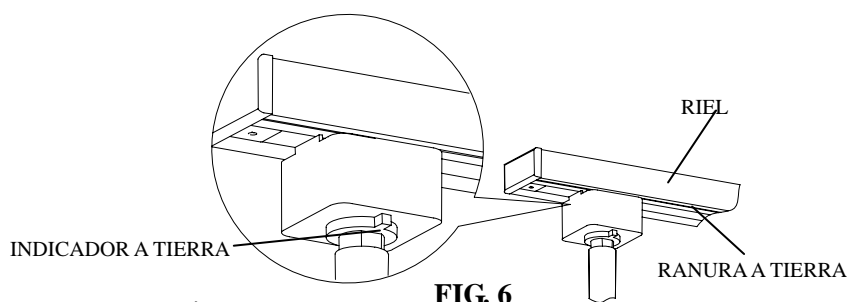

FIG. 6
PASO 5: INSTALAR Y DESMONTAR EL CABEZAL (VER LA Fig. 6)